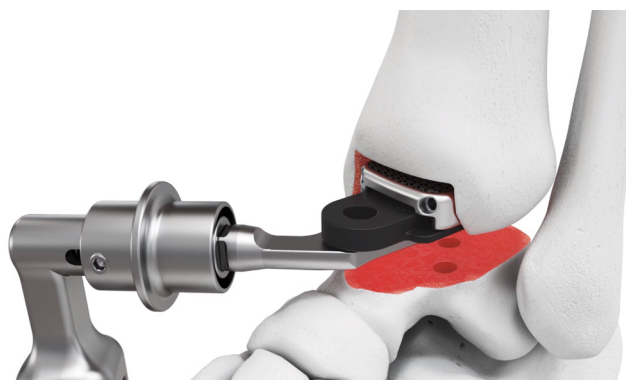

Fig. 33
3.4 Fully seat the Tibial Implant using the Tibial Impactor, Offset Impactor and/or Straight Impactor to seat the implant into the tibial canal (Fig. 33). Remove the Tibial Protector.